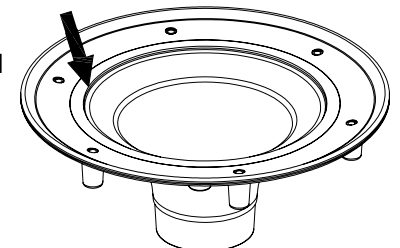

Fig. 2
Step 3 - Cut the membrane as per the roof membrane manufacturer's requirements in the center of the clamping collar. Continue to cut outward until the precast cutting edge in the drain body is located (Fig 2). Once the precast edge is found, cut out circular section of the membrane by following the cutting edge and cutting around the four securing bosses spaced inward on the collar.